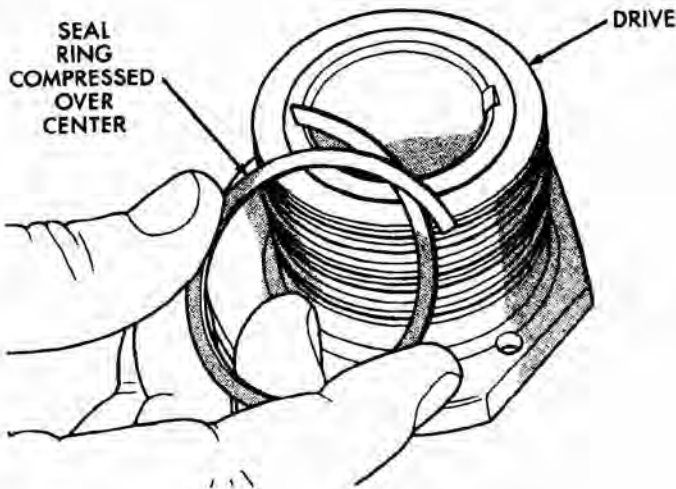

Fig. 42 Compressing Seal Rings
- (1) Lubricate governor components with Mopar ATF Plus transmission fluid during assembly.
- (2) Install new seal rings on governor drive as follows:
- (a) Compress (squeeze) each seal over center before installation (Fig. 42). This action provides tighter ring fit on drive.